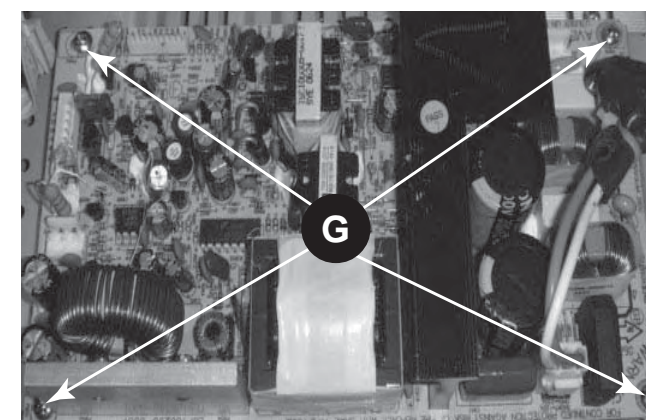

Figure 7
- 1) Loosen 4 screws "G" to remove the Power Board as figure 7.